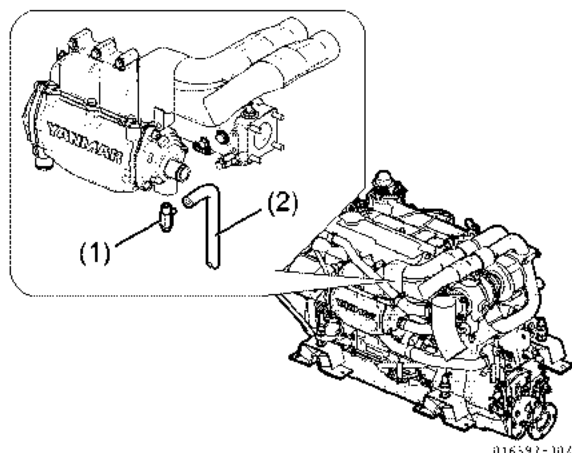

Figure 7-18
1. Drain seawater from seawater drain cock (Figure 7-18, (1)).
2. Remove the seawater drain pipe connected to seawater drain cock (Figure 7-18, (2)).